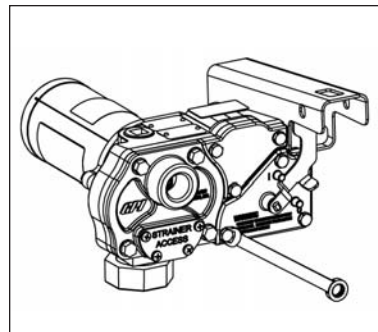

Figure 12
2. Remove the switch coverplate from the pump housing. (Figure 12)